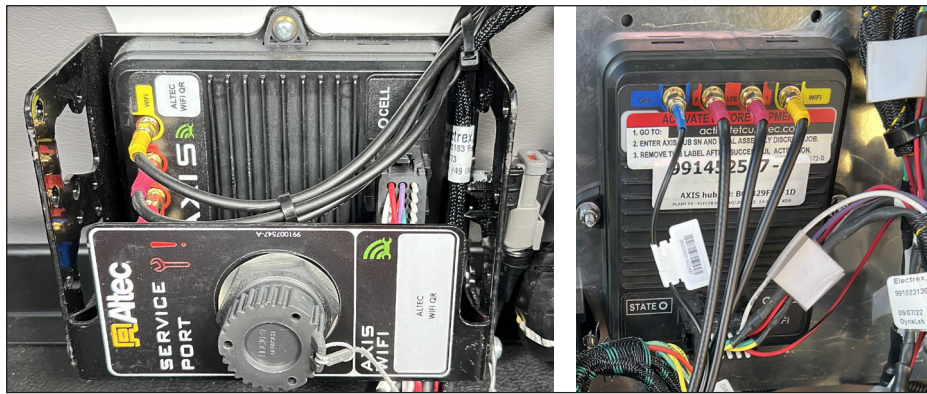

Figure 1 — AXIS TCU
2. Locate the AXIS TCU (refer to Figure 1).